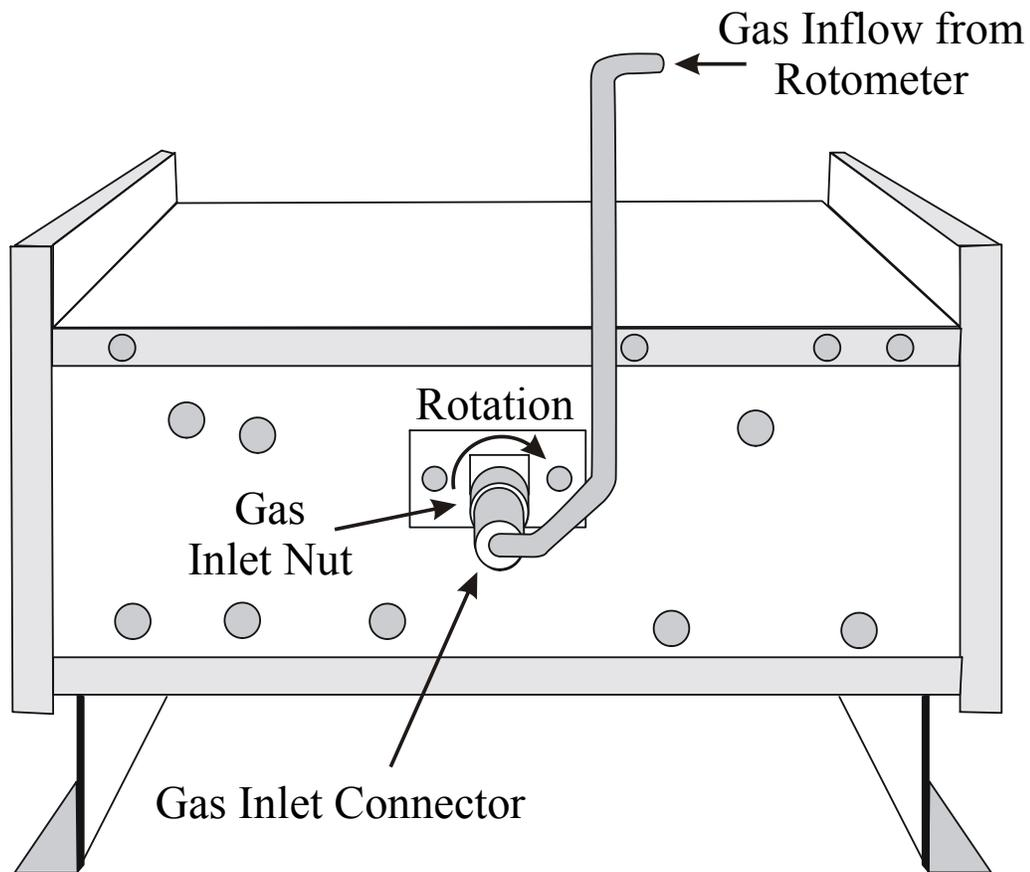

Figure 10-2: Gas Inlet Fitting Location (Rear of Oven)
- Step 5. On the rear of the oven assembly, loosen the knurled gas inlet nut securing the gas inlet connector to gas inlet on the rear of the quartz isolation tube inside the oven. See Figure 10-2.